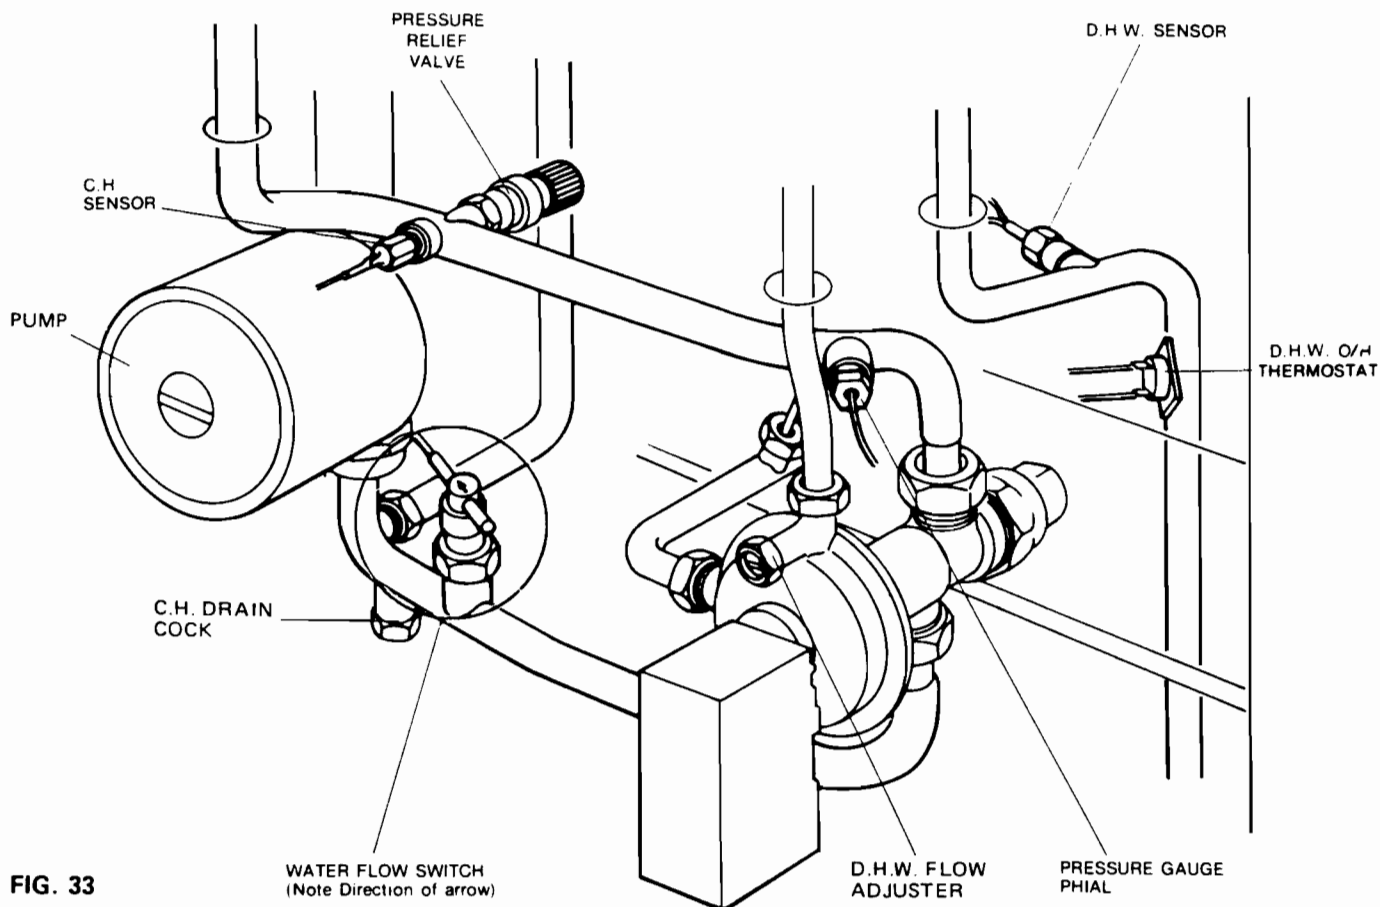

FIG. 33
13. DOMESTIC HOT WATER OVERHEAT THERMOSTAT (see Fig. 33)